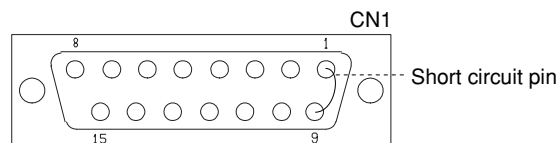

Fig.24
When the Emergency Stop Signal system is to be connected to a machine's interlock safety system remove the shorting pin shown in **Fig 24** and connect this line to the interlock safety switch.
(6) External Input/Output Connector CN1 Pin Arrangement (Fig.24)